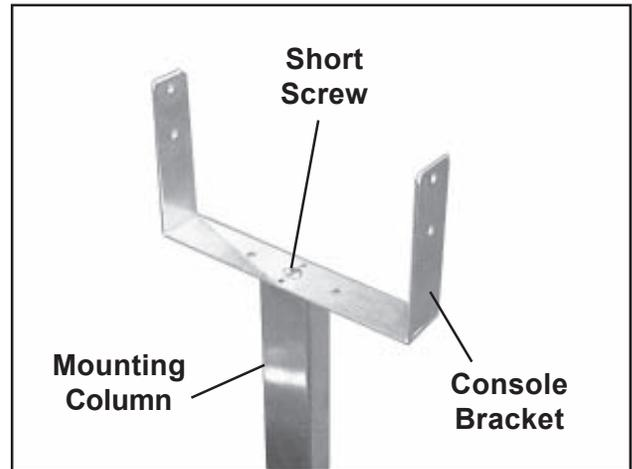

Figure 11. Mounting the Console Bracket to the Column
6. Mount the console bracket to the top of the column (Figure 11) with the short screw provided.